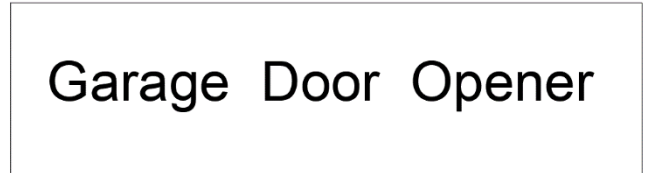

Figure 14
**NOTE:** Make sure the photo cell has been correctly installed and use Normally Closed contacts to the accessory terminals of the opener (Fig.14, Fig.15)
The O/S/C facility can be used for an external push button switch to operate the opener. The switch must have voltage free normally open NC contacts (Fig. 14)
**Photo beam connection (optional) – Fig.14, Fig.15**
**Switch control connection (optional) – Fig.14**
1. The O/S/C interfaces available. (Fig.14)